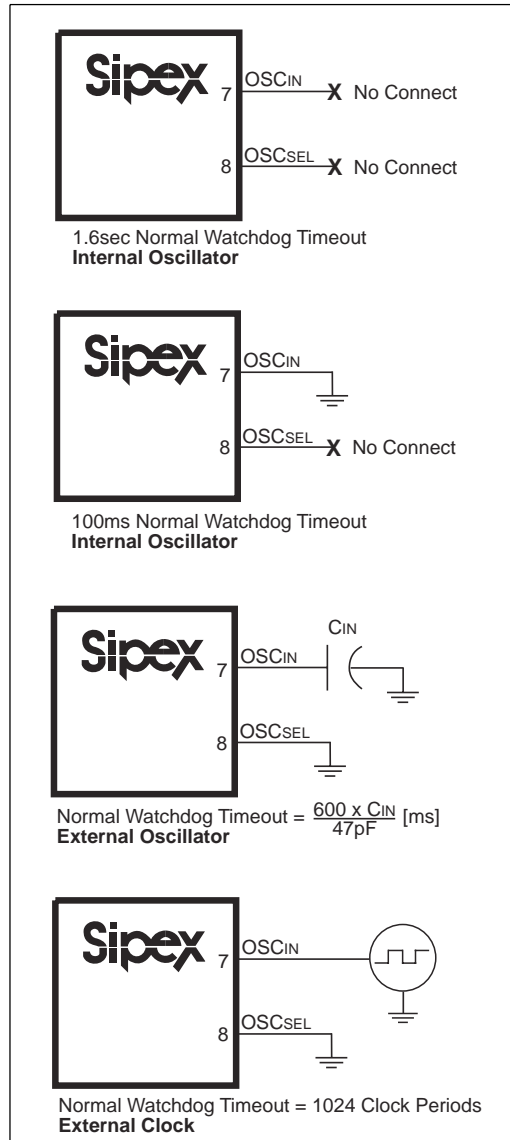

Figure 21. Selecting Timeout Periods
**Pin 7** —  $OSC_{IN}$  — External Oscillator Input. When  $OSC_{SEL}$  is unconnected or driven HIGH, a 10  $\mu\text{A}$  pull-up connects from  $V_{OUT}$  to this input pin, the internal oscillator sets the reset and watchdog timeout periods, and this input pin selects between fast and slow watchdog timeout periods. When  $OSC_{SEL}$  is driven LOW, the reset and watchdog timeout periods may be set either by a capacitor from this input pin to ground or by an external clock at this pin (refer to *Figure 21*).
The  $\text{OSC}_{\text{SEL}}$  and  $\text{OSC}_{\text{IN}}$  inputs control the watchdog reset timeout periods. Floating  $\text{OSC}_{\text{SEL}}$  and  $\text{OSC}_{\text{IN}}$  or tying them both to  $\text{V}_{\text{OUT}}$  selects the nominal 1.6s watchdog timeout period and 200ms reset timeout period. Connecting  $\text{OSC}_{\text{IN}}$  to ground and floating or connecting  $\text{OSC}_{\text{SEL}}$  to  $\text{V}_{\text{OUT}}$  selects a 100ms normal watchdog timeout period and a 1.6s timeout period immediately after reset. The reset timeout period remains 200ms. Refer to *Figure 20*. Select alternative timeout periods by connecting  $\text{OSC}_{\text{SEL}}$  to ground and connecting a capacitor between  $\text{OSC}_{\text{IN}}$  and ground, or by externally driving  $\text{OSC}_{\text{IN}}$ . A synopsis of this control can be found in *Figure 21* and *Table 1*.